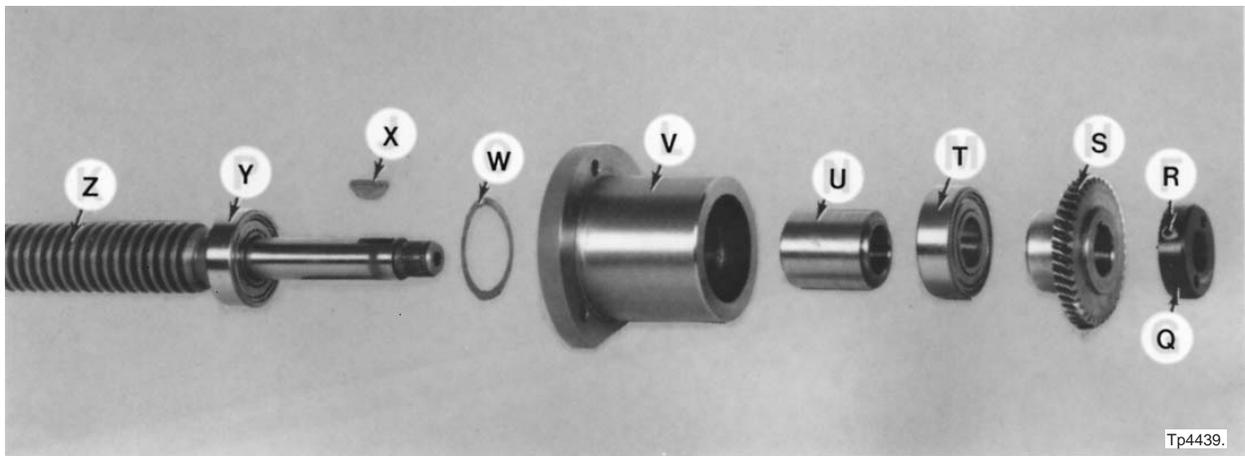

Figure 3.33 - Variable Feed Screw Components
Do not lose the nylon plug under set screw "R", Figure 3.33 .
7. Loosen set screw "R", Figure 3.33, and remove nut "Q" using a spanner wrench.
8. Remove worm wheel "S" and key "X", Figure 3.33 .
9. If required, press bearing “Y”, Figure 3.33, onto vertical screw shaft “Z”.
11. Replace key “X”, Figure 3.33, and worm wheel “S”.